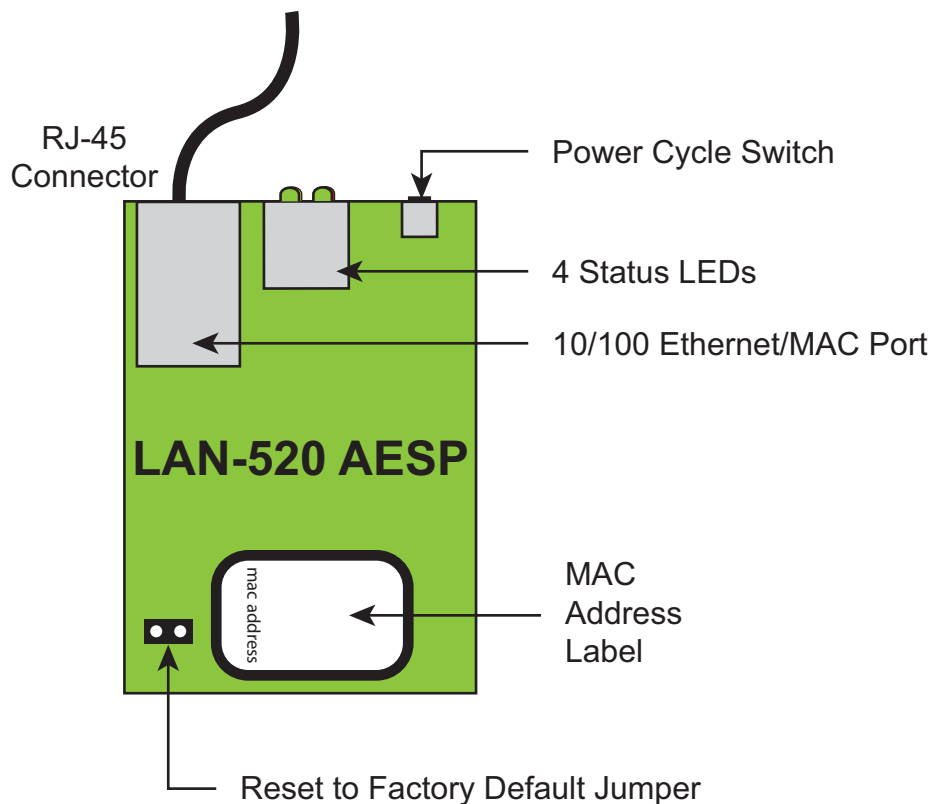

Figure 1: The LAN-520 AESP Unit
3. Insert the LAN-520 AESP into TB13 on the PXL-500. Orient the unit as shown in Figure 1.